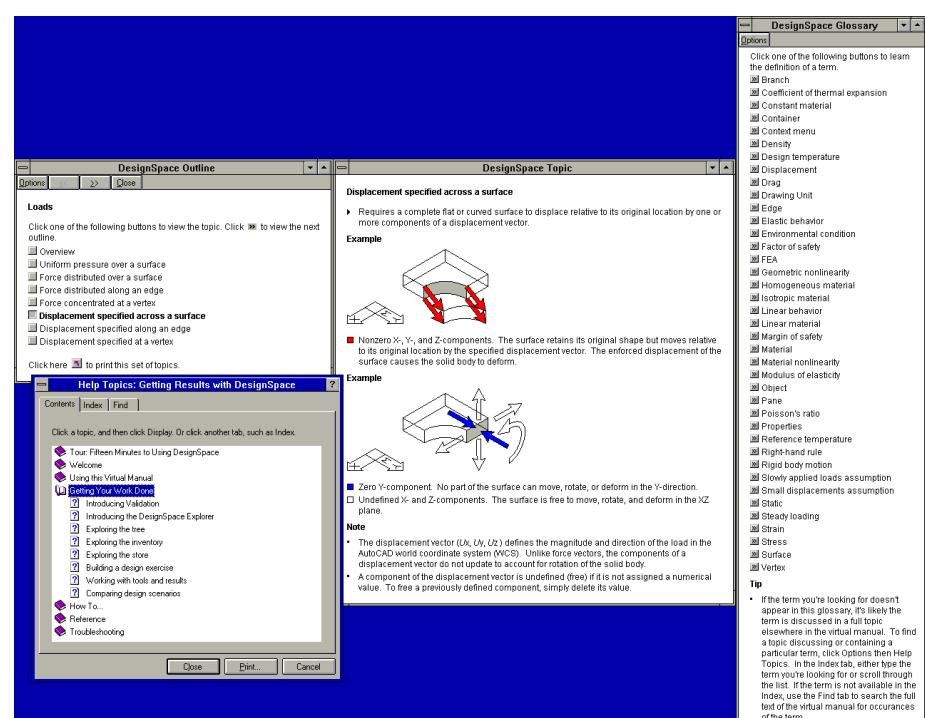

Figure 3
- Self-teaching tutorials and interface complemented by a comprehensive, accessible, easy-to-understand, online manual system (Figure 3); and